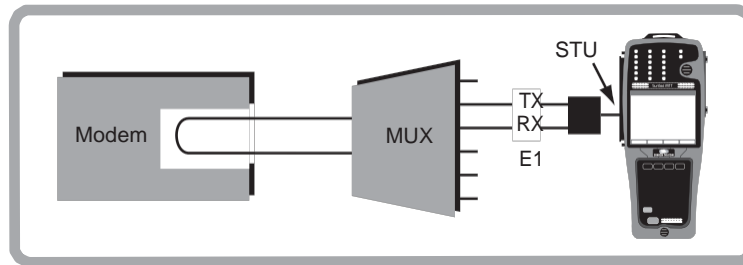

Figure 51 V.54 Channel Loopback Test
2. Connect the test set into the circuit as shown in Figure 51 and press HISTORY to acknowledge any blinking LEDs.